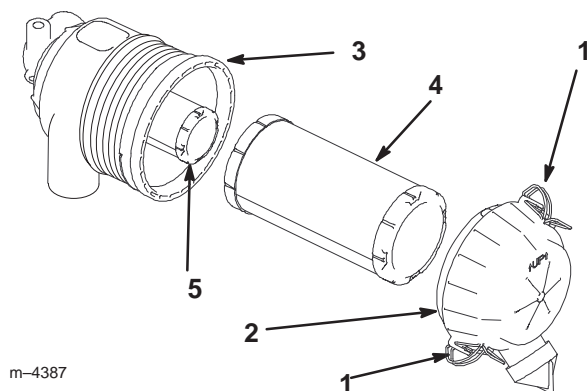

Figure 21
2. Release the latches on the air cleaner and pull the air cleaner cover off of the air cleaner body (Fig. 21).
4. Gently slide the primary filter out of the air cleaner body (Fig. 21). Avoid knocking the filter into the side of the body. Do not remove the safety filter, unless you intend to replace it as well.
2. If the safety filter is being replaced, carefully slide it into the filter body (Fig. 21).
3. Carefully slide the primary filter over the safety filter (Fig. 21). Ensure that it is fully seated by pushing on the outer rim of the filter while installing it.
4. Install the air cleaner cover with the side indicated as UP facing up and secure the latches (Fig. 21).